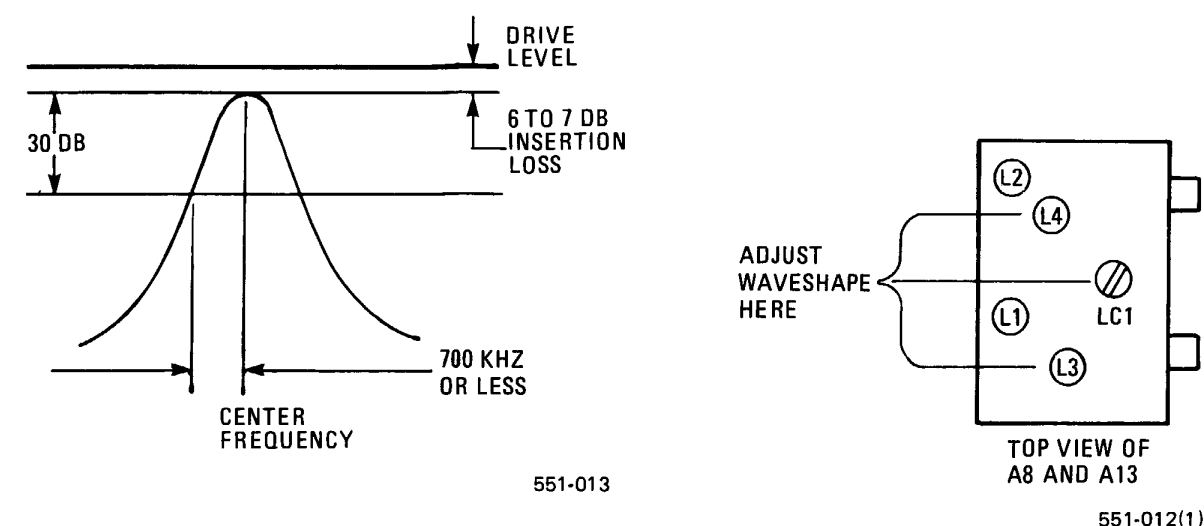

Figure 4-10. High Band Assembly Wave Shape Adjustment
8. On high band assembly A8 and A13, the three adjustments shown are used to obtain the wave shape shown in figure 4-10.